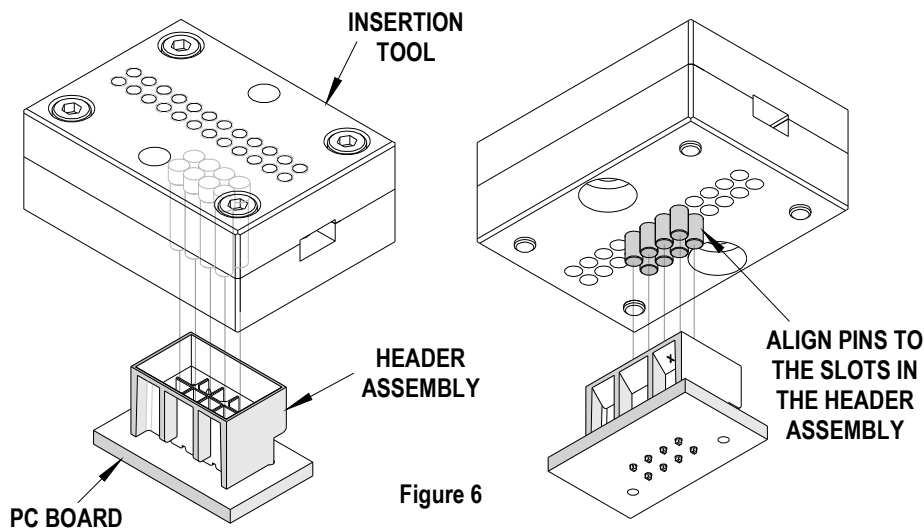

Figure 6
6. The tool alignment pins that support the longer connector pins must be raised into the pin holder. To do this, loosen the M2.5 x 5mm long setscrew above the pin. Allow the setscrew to come up to the top of the backing plate (but not above the surface.). See Figure 6.
7. Repeat step 6 for the remaining MFBL positions. The “standard” pin positions must have the M2.5 x 5mm long setscrew tightened (gently) against the alignment pin. See Figure 6.
11. Place the insertion tool on top of the header aligning the pins in the slots of the header assembly. See Figure 6.